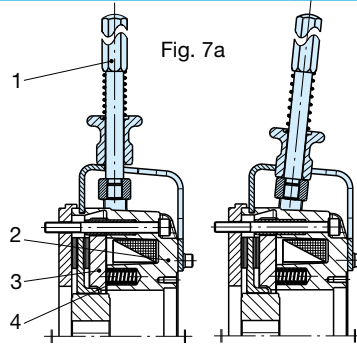

Fig. 7a
In de-energised condition, the brake with lockable hand release can be released manually. By deflecting the hand release rod (1), the armature disk (3) is pushed against the thrust springs (4) onto the coil carrier (2) and the braking torque is removed, Figs. 7a and 7b.